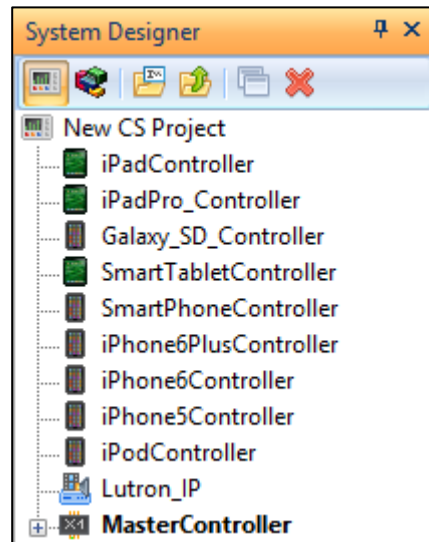

Figure 10 - Controller Types
**Note:** When Navigator opens up a module, all controller types will appear (Figure 10). Please select the controller type that is required for the module project. These next few steps will show how to configure the first controller type that is desired. All other controller screens may be added after the first one is completed.